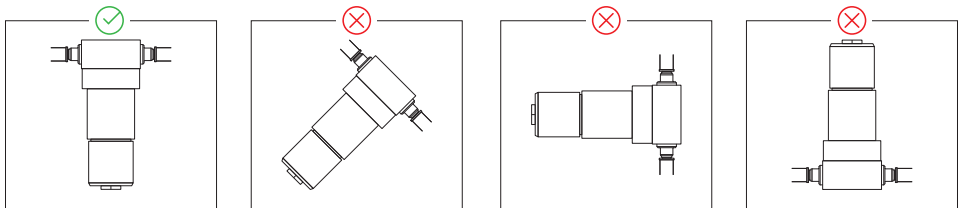

Fig. 3 - 6: Installation position of water separator
3. Ensure the filter is mounted vertically. Do not install the filter upside down or at an angle (Fig. 3 - 6).